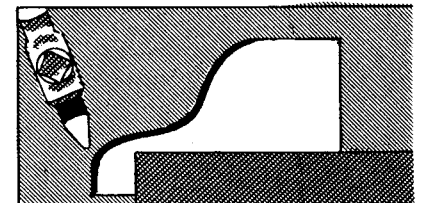

FIG. 503
14. Engage the feed, and observe carefully the path of the point of the tool, moving it down so that a machined surface is cut $1/32$ " from, and parallel with, the contour line (Fig. 503).